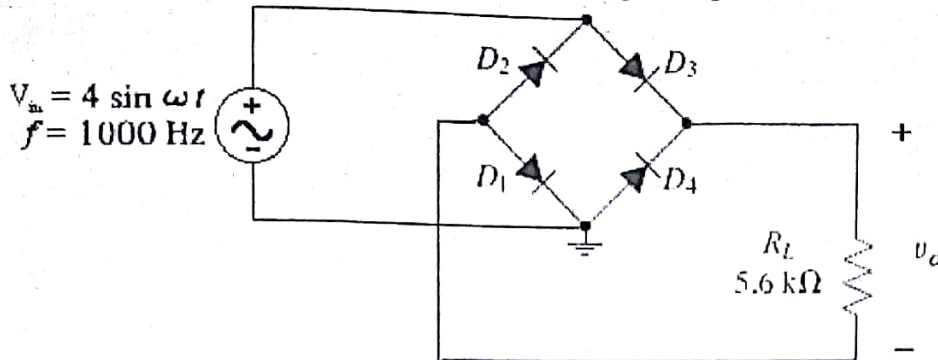

Fig.7: Bridge Rectifier.
- Construct the circuit shown in Figure 7. Sketch the input and output waveforms. Then, measure the DC load voltage using DMM.